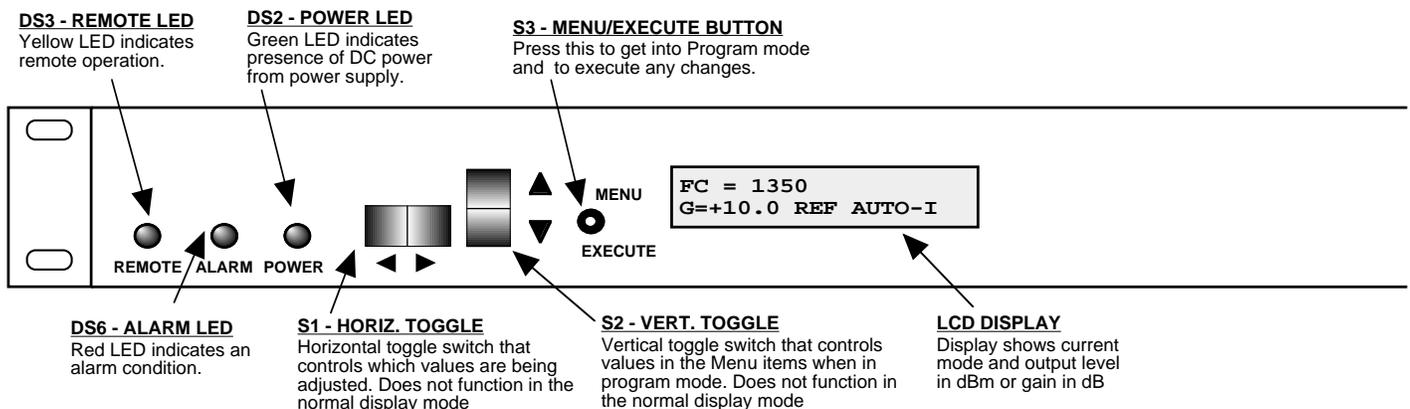

FIGURE 2.2 2083-1919-02 Front Panel Controls and Indicators
Figure 2.2 shows the front panel controls and indicators.
5. Be sure DS6 (green, DC Power) is on and DS2 (red, Alarm) is off (Figure 2.2).
Alarm indications appear on the LEDs (see Figure 2.2).